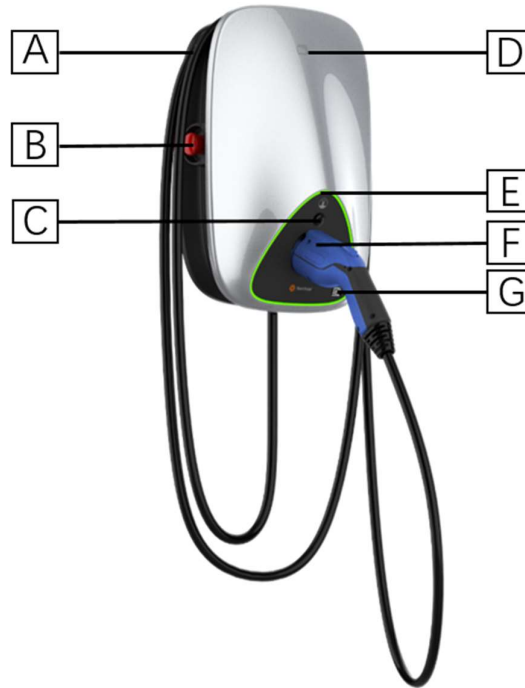

Figure 3-1 Appearance of the wall-mounted (Subject to the actual product)
- When charger is not used, the charging cable should be rolled up and put back into the cable winding trough in position [A] as indicated in figure 3-1, and the charging connector should be inserted into the designated position [F] for safe storage.